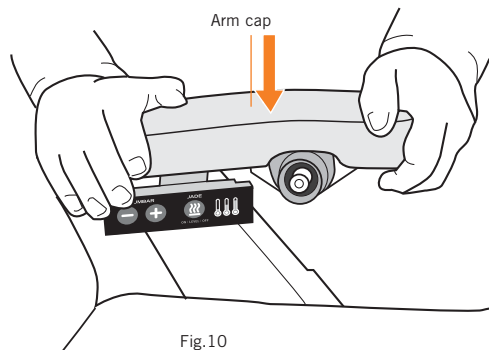

Fig.10
6. While holding the housing firmly in place, place the arm cap into position and press down firmly (Fig.10).